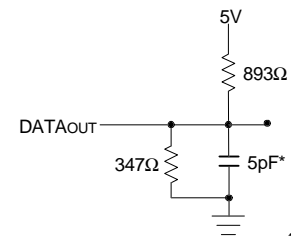

Figure 2. Output Test Load
1. Transition is measured $\pm 500\text{mV}$ from Low or High-impedance voltage with Output Test Load (Figure 2).
- Transition is measured $\pm 500\text{mV}$ from Low or High-impedance voltage with the Output Test Load (Figure 2).
7. This parameter is guaranteed by device characterization, but is not production tested. Transition is measured $\pm 500\text{mV}$ from steady state with Output Test Load (Figure 2).